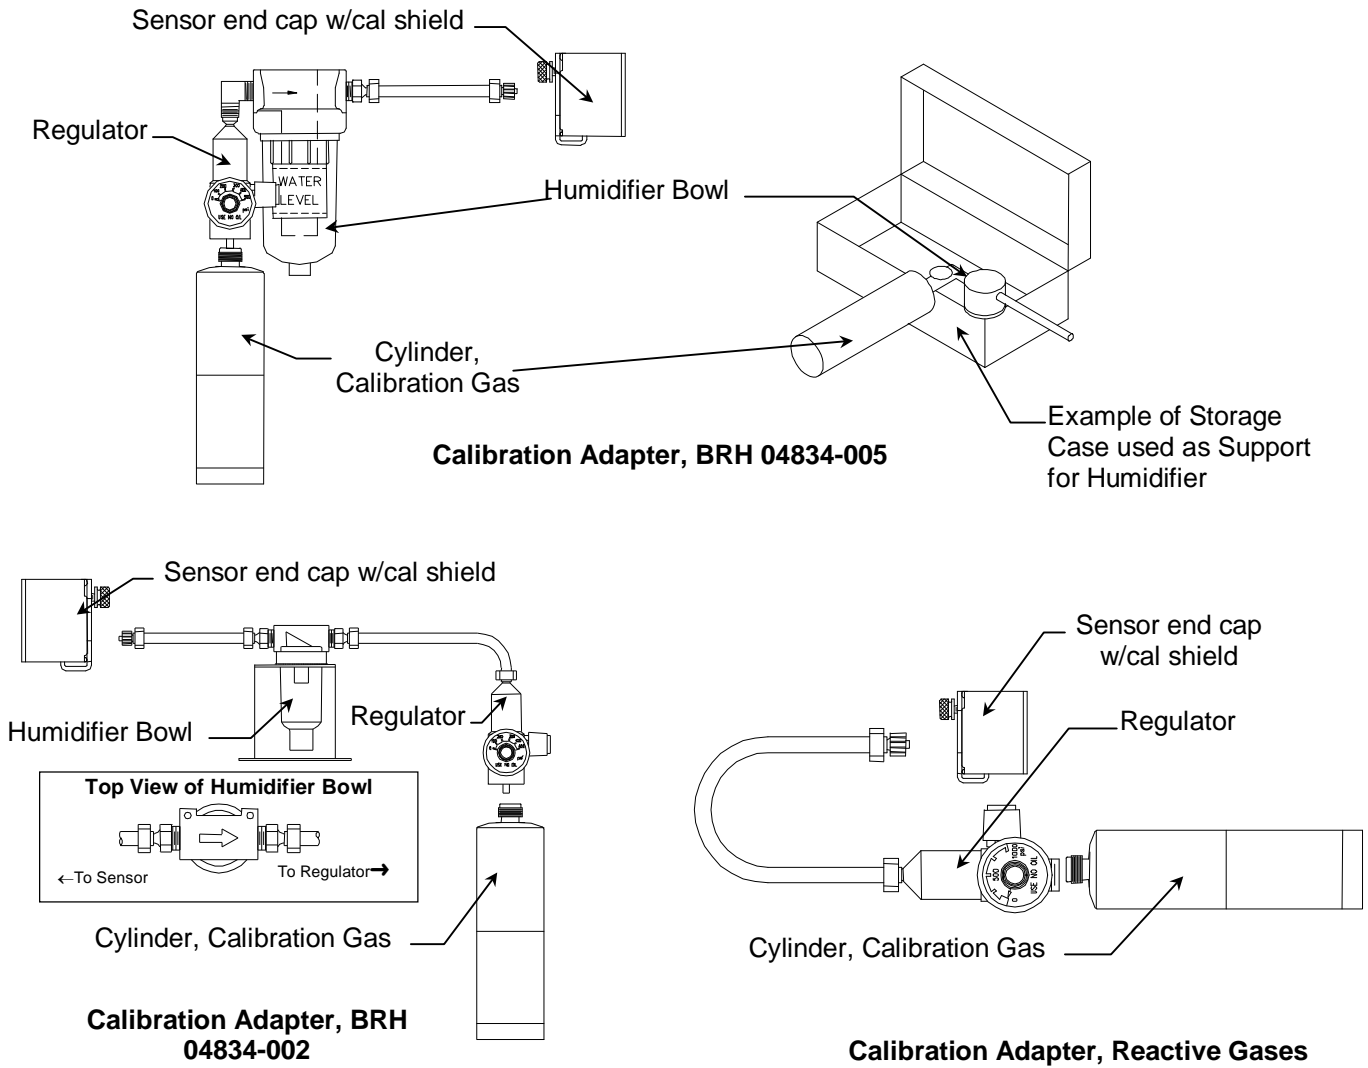

Figure 8: Various Calibration Adapter Attachments
Attach the sampling shield supplied with the instrument, to the bottom of the instrument in the same manner as the calibration shield, see Figure 8. The calibration shield has an orange label. The sampling shield has an yellow label.
Attach the calibration adapter to the cylinder of span gas and calibration shield. See figure 8.
- If the BRH sensor is being calibrated with the 04834-002 calibration fixture, fill the humidifier bowl approximately 1/3 full with clean, tap water. The tube should **NOT** go under the water line. No bubbles should be visible when gas is flowing. See figure 8.
- If the BRH sensor is being calibrated with the 04834-005 calibration fixture, fill the humidifier bowl to level indicated. Use the storage case to support the humidifier while in use. See figure 8.
- Use the reactive gases calibration adapter which does not have a humidifier bowl. For CO, O2, Methane sensor calibration these sensors may be calibrated simultaneously or individually using the combination calibration gas and reactive gases calibration adapter. See figure 8.